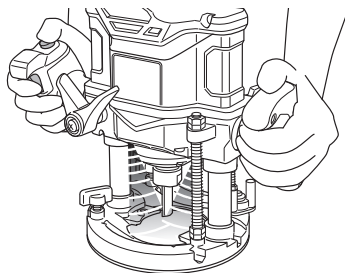

Fig. 32
5. LED light warning signals (Fig. 32)